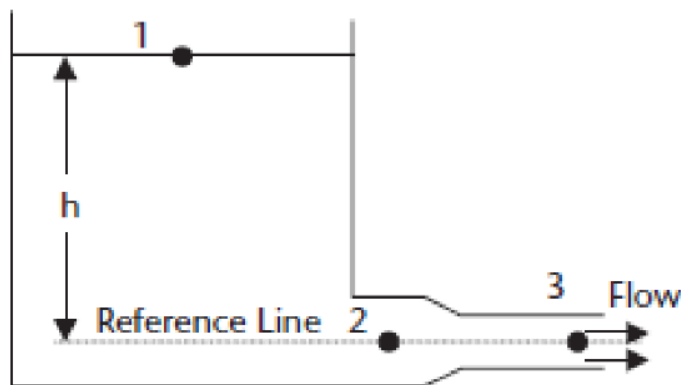

Figure 2(c)/ Rajah 2(c)
- CLO1 (c) If the pressure at point 2 is 130kPa, calculate the height of the column of water h in Figure 2(c) below. The diameter at point 2 and 3 are 30 cm and 15 cm, respectively.